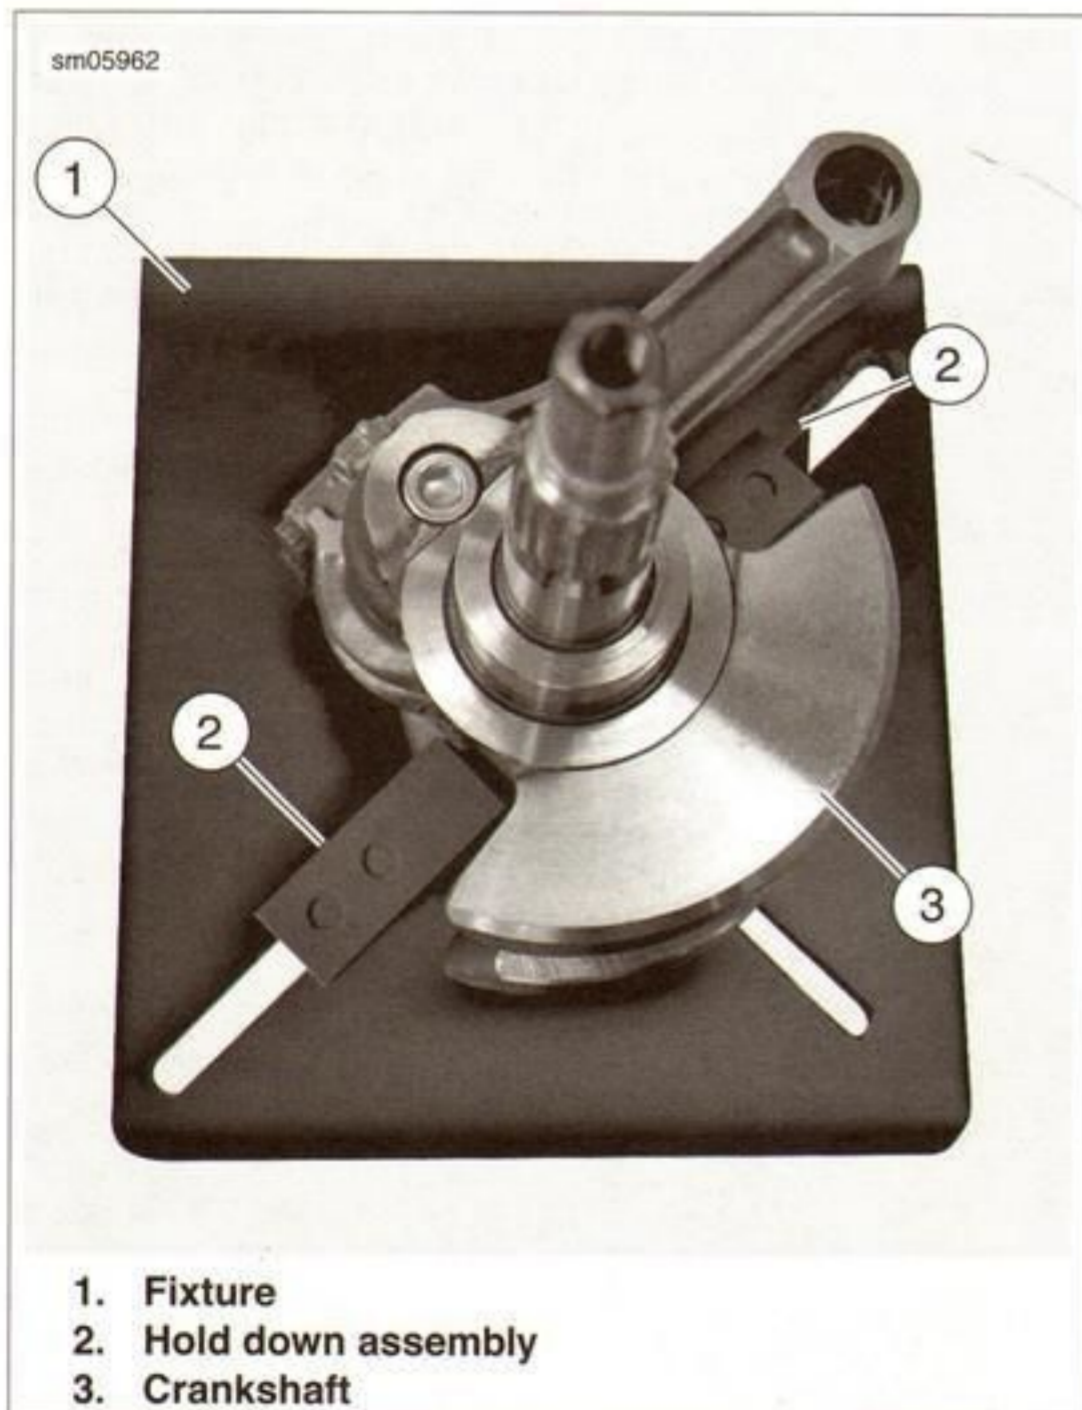

Figure 3-191. Crankshaft In Fixture
1. See Figure 3-191. Place the FLYWHEEL SUPPORT FIXTURE (Part No. HD-44358) in a vice. Attach crankshaft (3) to the fixture (1) using hold down assemblies (2).
1. See Figure 3-191. Place crankshaft in fixture.